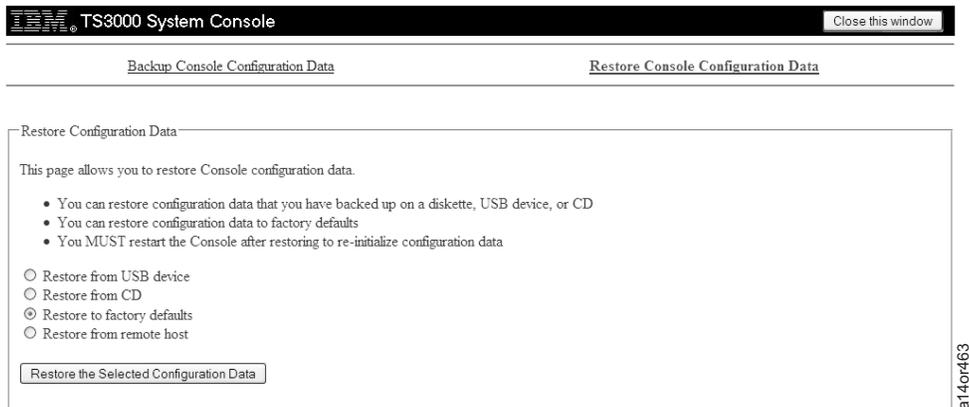

Figure 127. Restore Configuration Data Screen
- Click **Restore Console Configuration Data**. You see the screen shown in Figure 127.